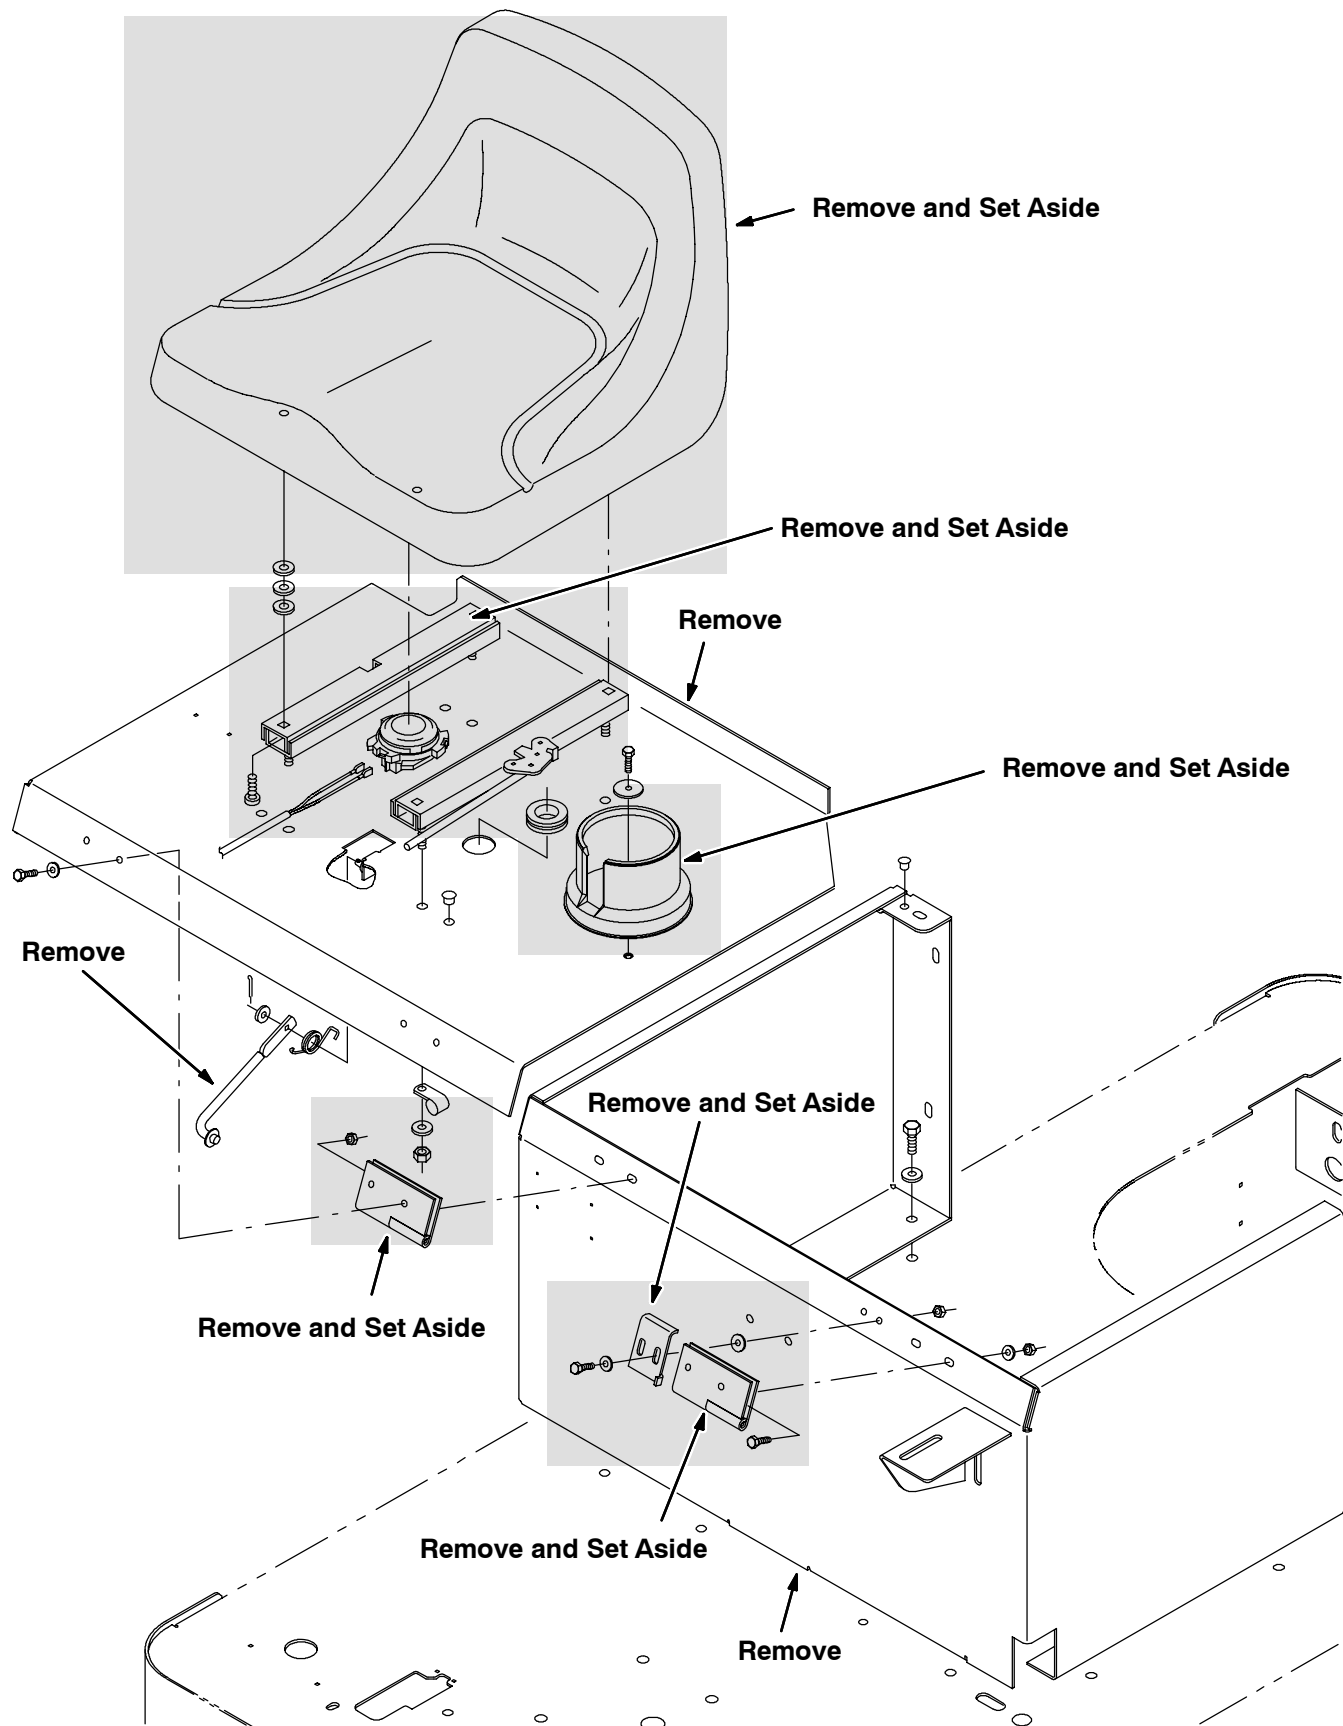

FIG. 2-Seat Group Removal
3. Remove and set aside the cup holder. Refer to Fig. 2.
5. Remove and set aside the operators seat and slide rails and mounting hardware from the seat weldment. Refer to Fig. 2.
10. Remove the seat weldment and seat support weldment from the machine. Set aside the hardware. Remove and set aside the hinges, seat lock bracket, and mounting hardware. Refer to Fig. 2.